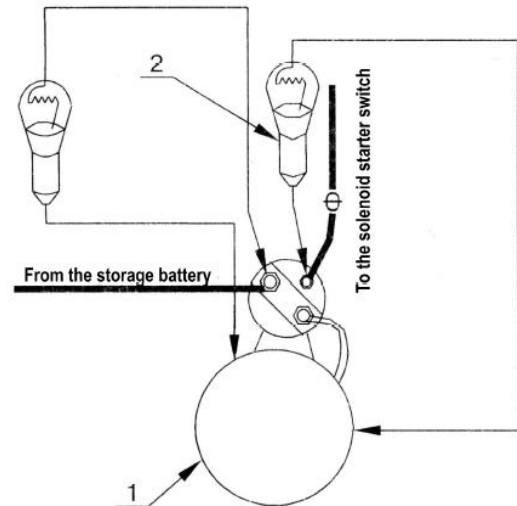

Fig. 6. Checking the operability of the starter "M3": 1 – starter; 2 – test lamp.
- 1) to the power terminal of the starter (Fig. 6);
- 2) to the terminal of the solenoid starter switch (having turned the starter switch key to the second position) (Fig. 6);